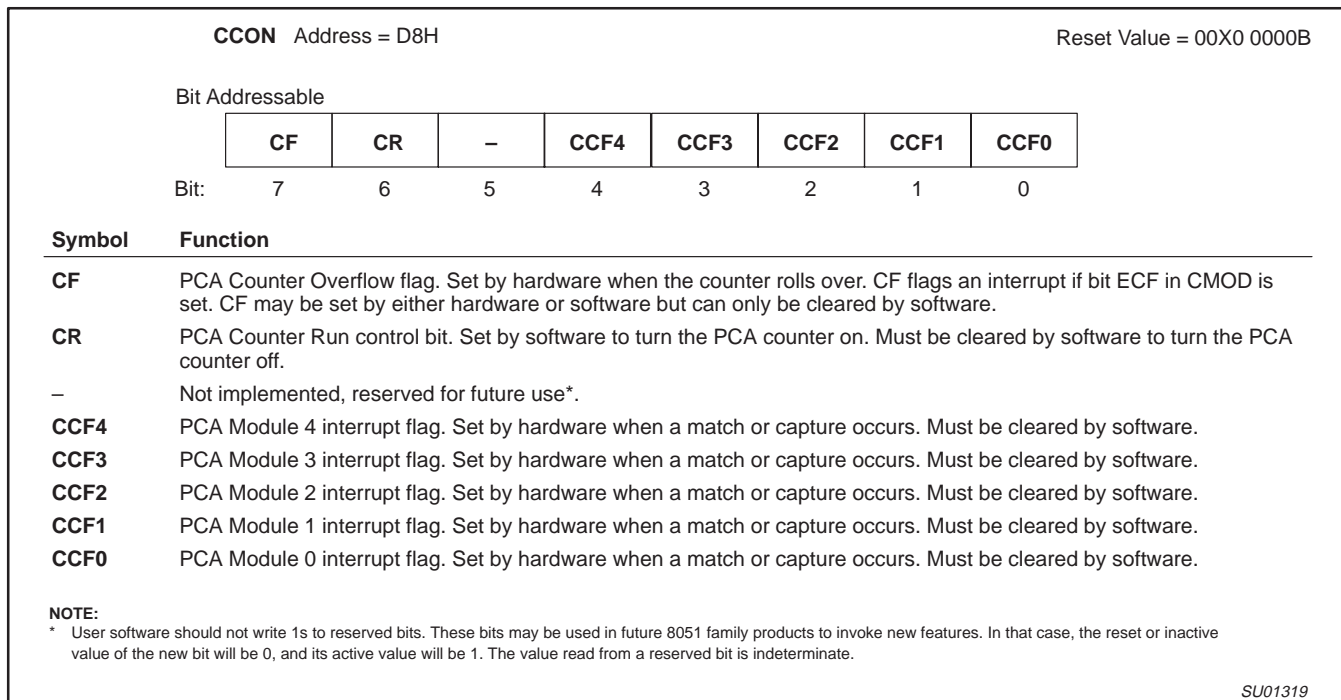

Figure 23. CCON: PCA Counter Control Register
The CCON SFR contains the run control bit for the PCA and the flags for the PCA timer (CF) and each module (refer to Figure 23). To run the PCA the CR bit (CCON.6) must be set by software. The PCA is shut off by clearing this bit. The CF bit (CCON.7) is set when